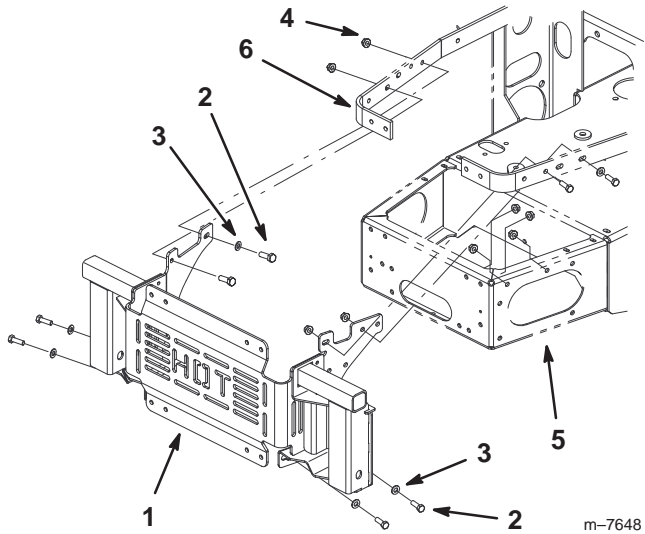

Figure 10
2. Loosely install the bagger mounting bracket to the side of the rear bumper and the engine guard straps, with 8 bolts (5/16 x 1 inch), 6 flat washers (5/16 inch), and 8 flange nuts (5/16 inch) (Fig. 10).